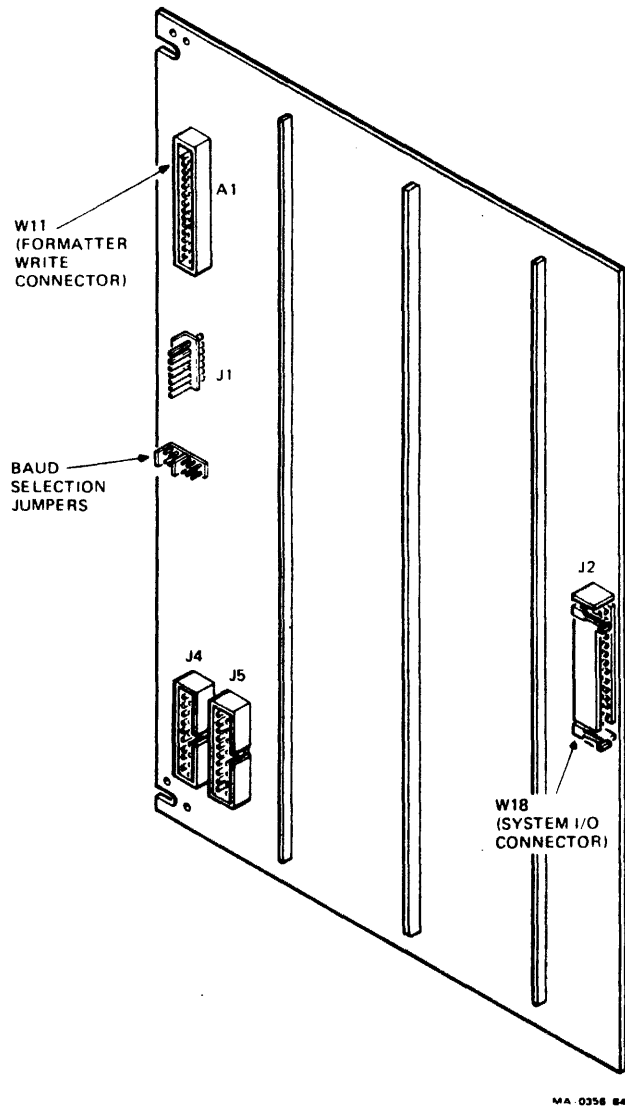

Figure 5-32A. TMSCP INTERFACE CONTROLLER MODULE
3. When removing a TMSCP Interface Controller module, remove connectors W17P1, W15P1, W11P, and W18 (I/O cable). Refer to Figure 5-32A.